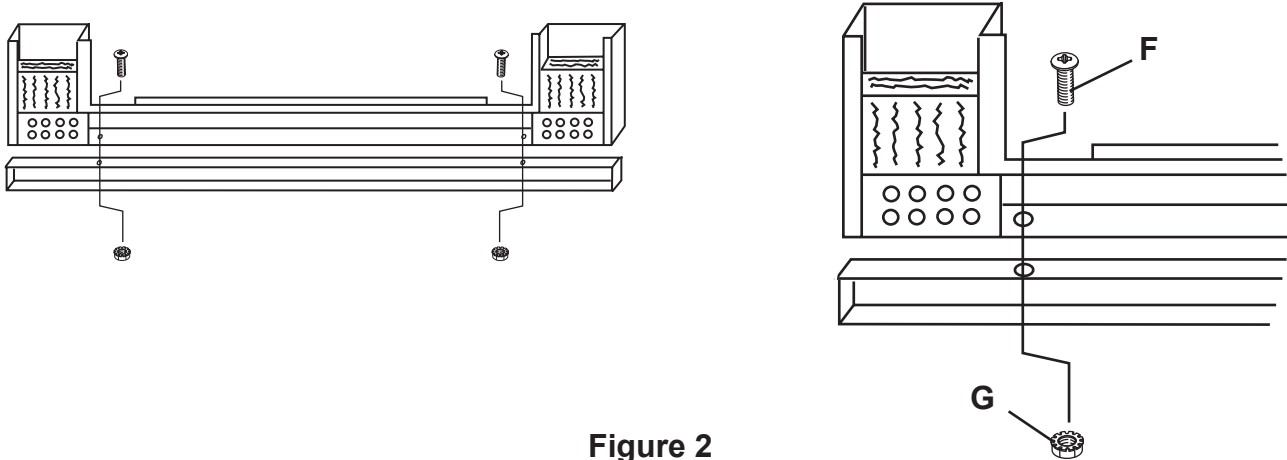

Figure 2
If the Riser Bar is required, lay the door face down on a soft, flat, surface. Attach the riser bar with two (2) 8-32 x 5/8" Machine Screws "F" and two (2) Hex Nuts "G" as shown in Figure 2. Use caution to protect your hands from possible sharp metal edges. The back edges of the riser bar and the back edges of the bottom frame should be flush. In some cases, the riser bar will extend in front of the assembly frame which is correct.